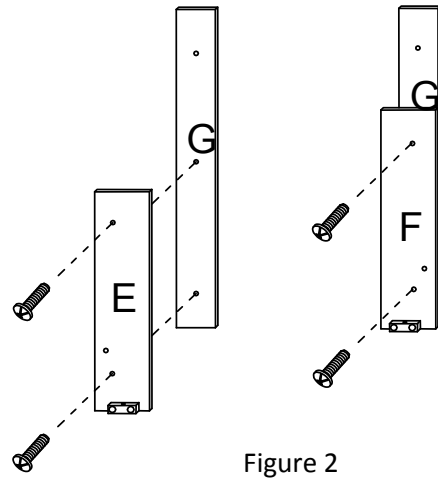

Figure 2
Attach the **Small Front Panels (E & F)** to the **Right & Left FRONT PANEL (G)** with 4 **KD SCREWS (U)** (2 screws for each side). See Figure 2.